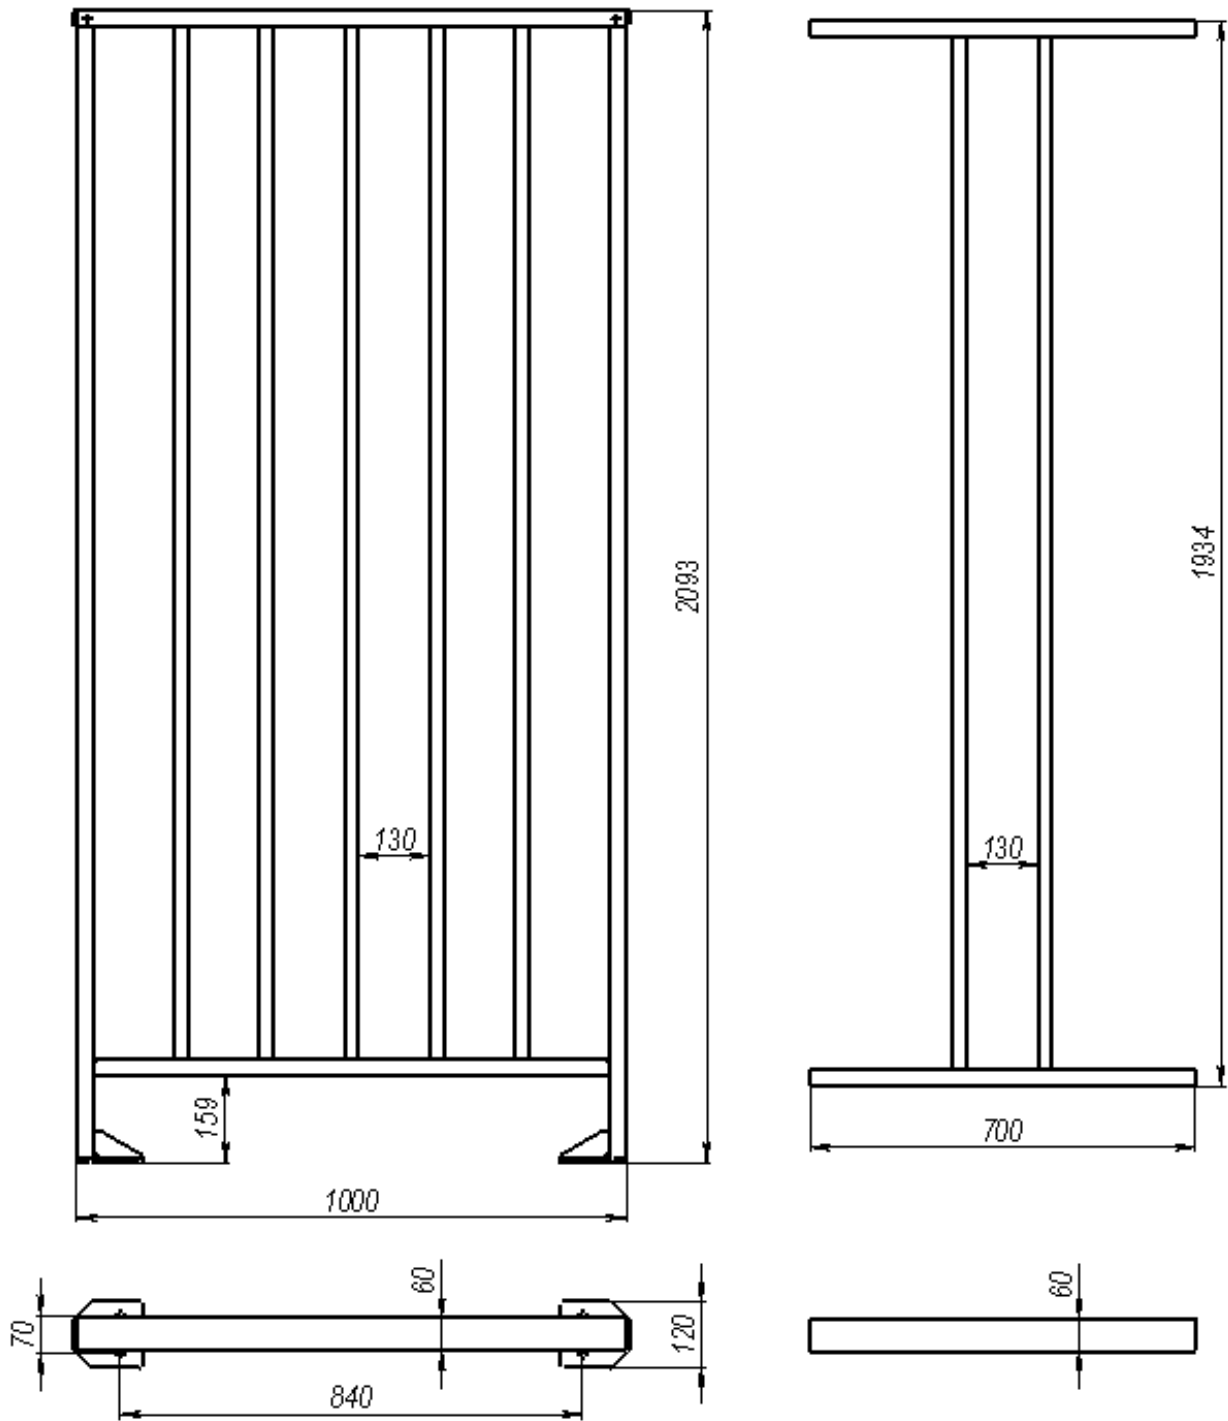
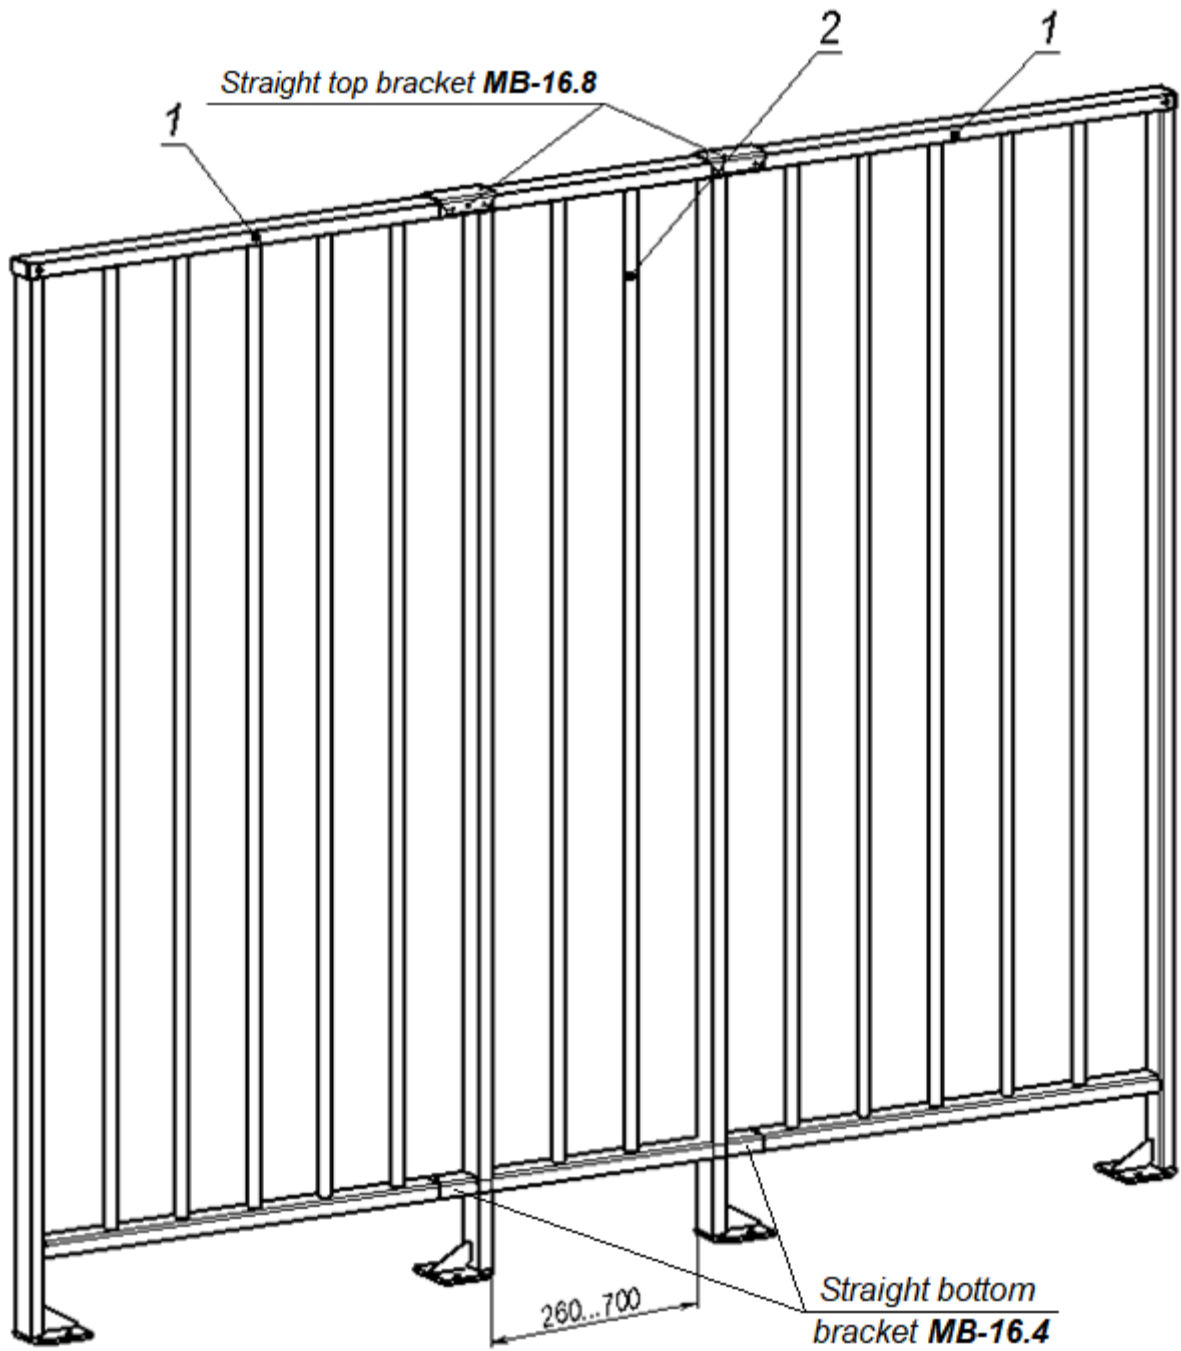

Figure 1. Overall view and dimensions *MB-16R* railing and *MB-16D* extension section ³
Figure 2. Sample design of the railings:
Design and dimensions of the railings is shown in Fig. 1. The options for using the railings sections and connecting elements are shown in the Figures 2, 3 and 4.
6. The **MB-16D** extension section can be cut according to the gap width. The length of the additional section can be reduced to 260 mm if necessary (Ref. Figure. 2).